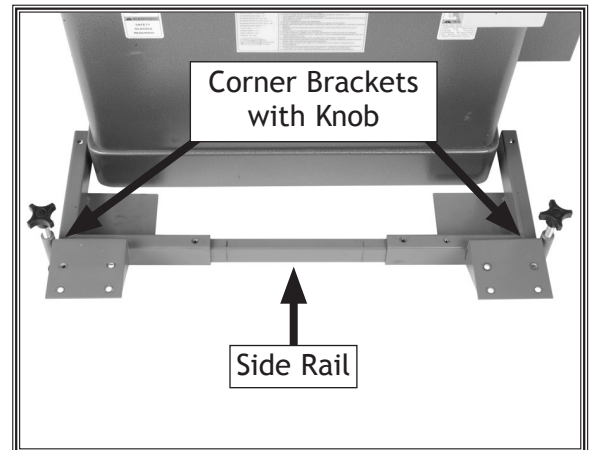

Figure 18. Rail inserted between corner brackets with knobs and feet.
3. Slide a side rail inside each of the two corner brackets with the foot posts, then slide the assembly up against the front of the machine or the side that will be pushed (see Figure 18).
5. Thread (1) 8mm lock nut halfway onto each M8-1.25 x 25 hex bolt with the nylon insert on the nut facing the head of the bolt.